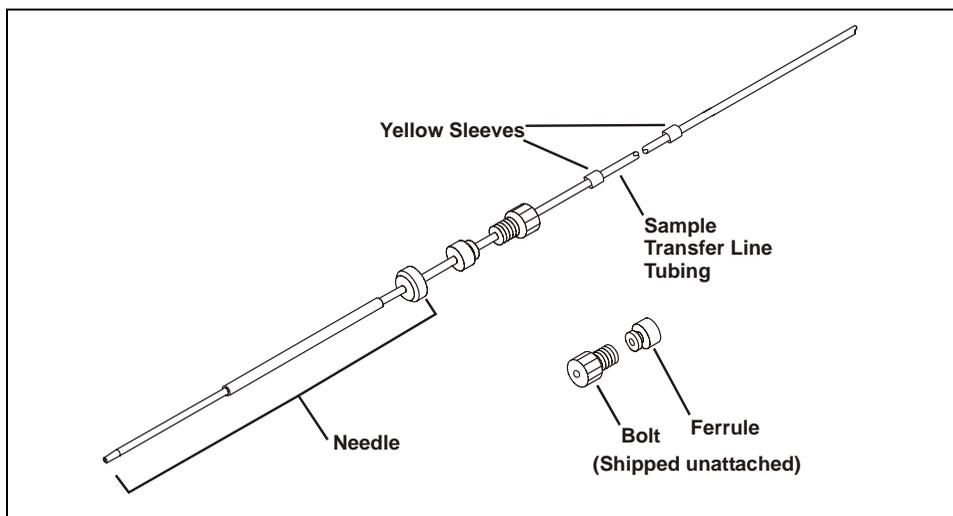

Figure 5-7. Sampling Needle Assembly
1. Figure 5-7 illustrates the sampling needle assembly.